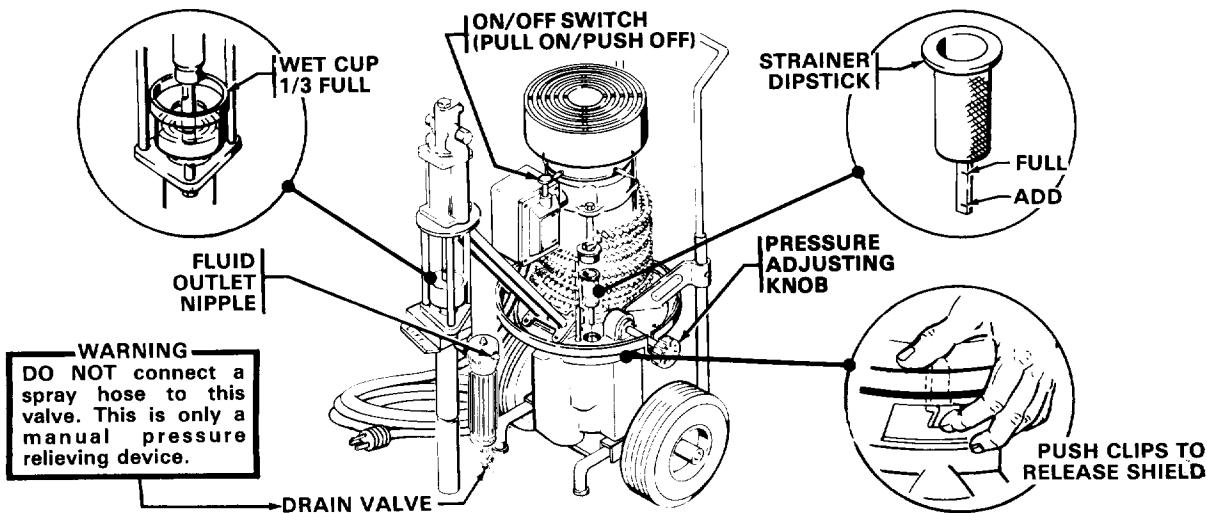

Fig 1
1. Check Hydraulic Fluid (Refer to Fig 1.)
2. Connect Hose and Gun (Refer to Fig 1.)
3. Fill Packing Nut/Wet-Cup (See Fig 1.)
- Be sure the ON/OFF switch is OFF. Refer to Fig 1. Then plug the cord into a grounded electrical outlet at least 20 ft (6 m) away from the spray area.
- d. Turn the pressure adjusting knob all the way counterclockwise to lower the pressure setting. Refer to Fig 1.